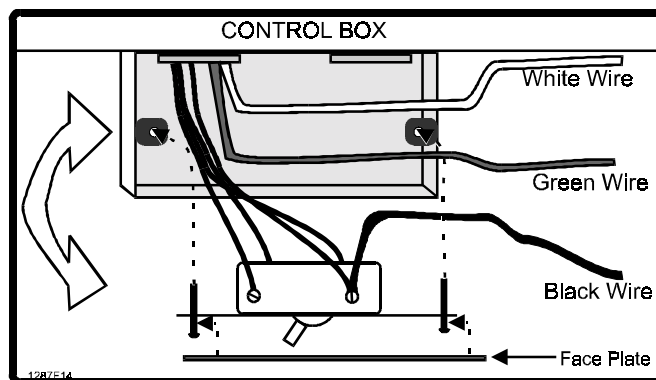

Figure 3. AC Wiring.
3. **GROUND THE SYSTEM.** The system contains parts which may be damaged by static discharge. A proper earth ground connected to the gate operator housing (see Figure 3) will significantly reduce the chances of damage or improper operation. The shielding in the cables specified for all remote sensors and controls should also be connected to earth ground at the controller end of the cable only.
Run power cables through the conduit to Gate Operator, then connect wires to the switch box (see Figure 3).